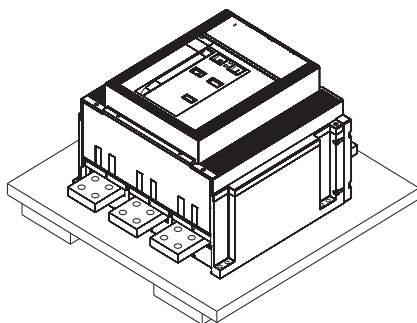

Fig. 4
- Place the circuit-breaker and any fixed part on a horizontal surface, not in direct contact with the floor but on a suitable support (Fig. 4).